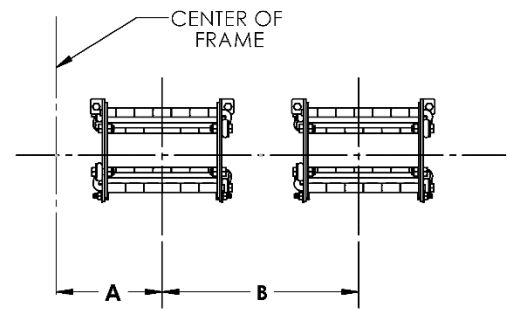

Figure 11: Flail Spacing
4.2.1 Flail Spacing: Verify the spacing matches the spacing of the planted crop as shown in Figure 11.